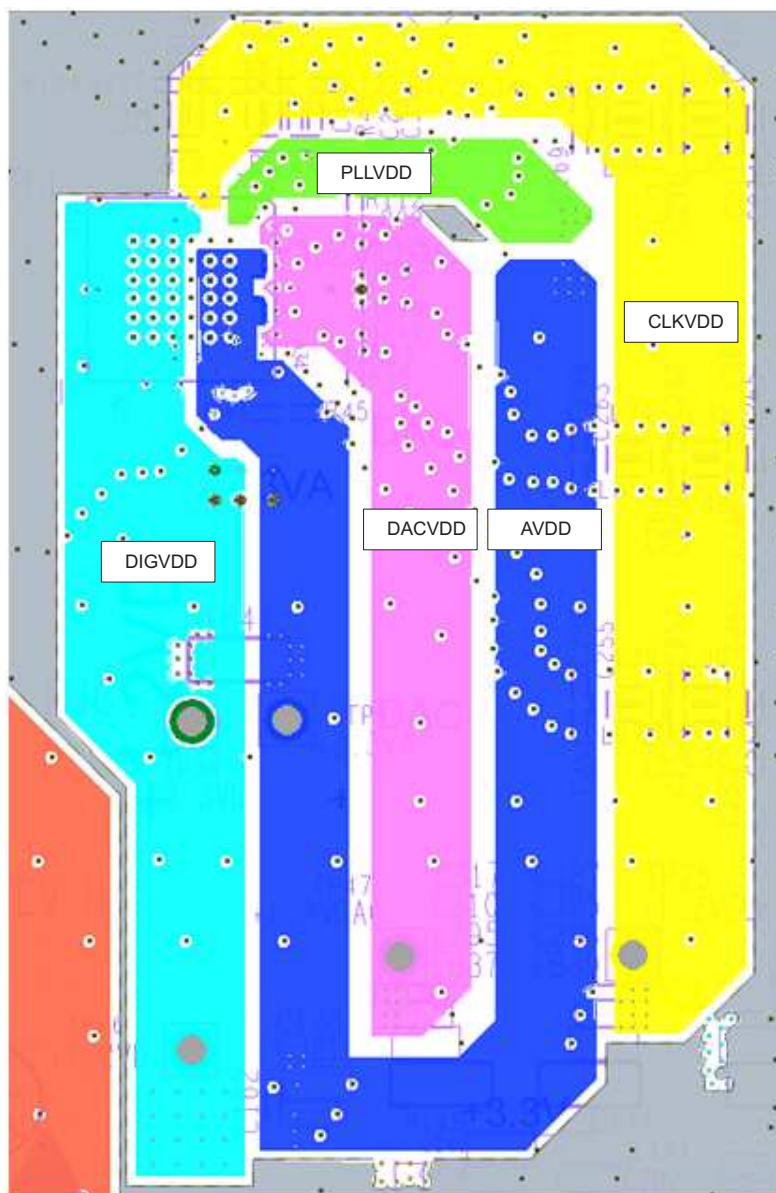
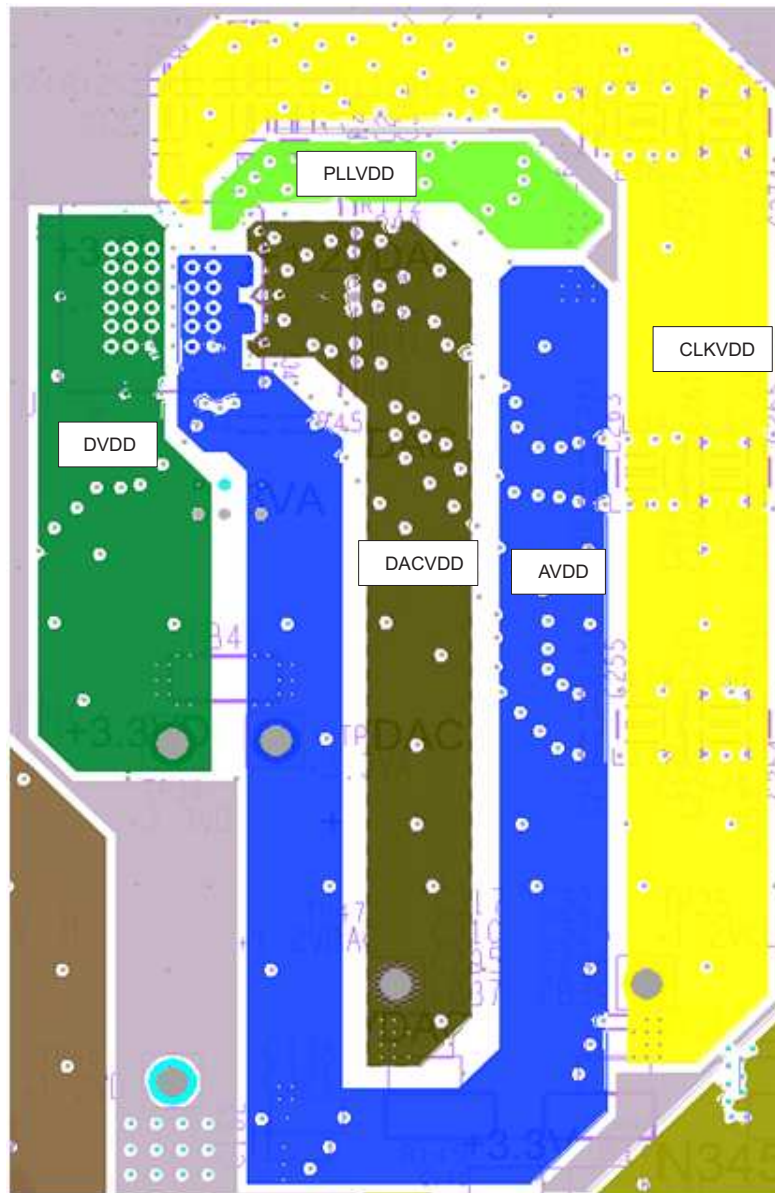

Figure 101. Third Layer of DAC3482 Layout Showing Power Layers. Layout Example from DAC3482EVM Rev H
Figure 102. Fourth Layer of DAC3482 Layout Showing Power Layers. Layout Example from DAC3482EVM Rev H
The following layout guidelines correspond to the layouts shown in Figure 101 and Figure 102.
2. As shown in Figure 101 and Figure 102, both layers three and four are designated for power supply planes. The DAC analog powers are all in the same layer to avoid coupling with each other, and the planes are copied from layer three to layer four for double the copper coverage area.